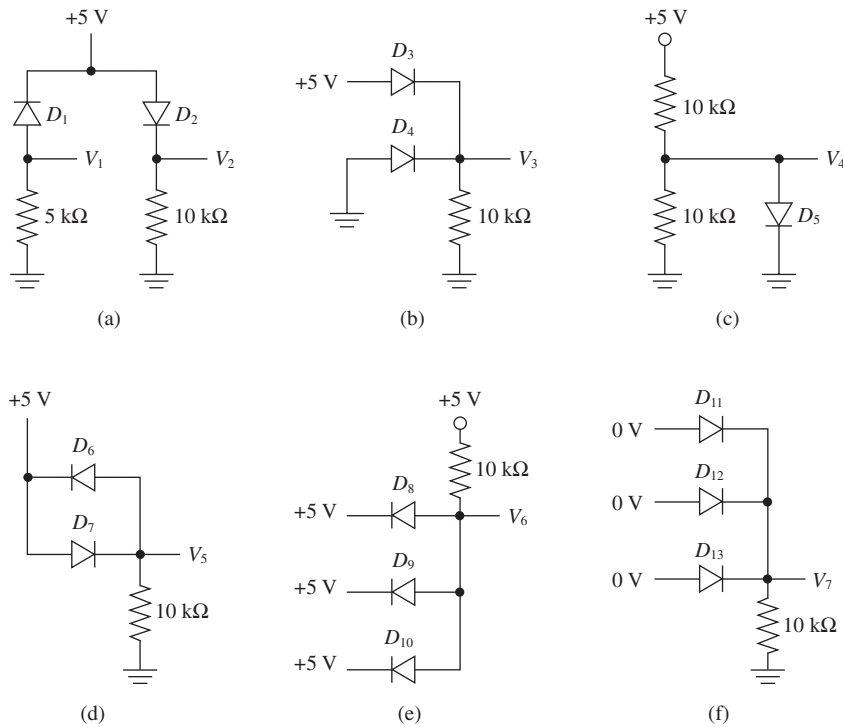

Figure P6
6. Determine if the diodes in Figure P6 are reverse or forward biased.
- C** 7. Determine V_1 , V_2 , V_3 , V_4 , V_5 , V_6 , and V_7 in the circuits of Figure P6.
8. In Figure P6, if the cathode of any one of the diodes D_8 , D_9 , or D_{10} is connected to 0 V instead of +5 V, what happens to V_6 ?
9. In Figure P6, if the anode of any of the diodes D_{11} , D_{12} , or D_{13} is connected to +5 V instead of 0 V, what happens to V_7 ?